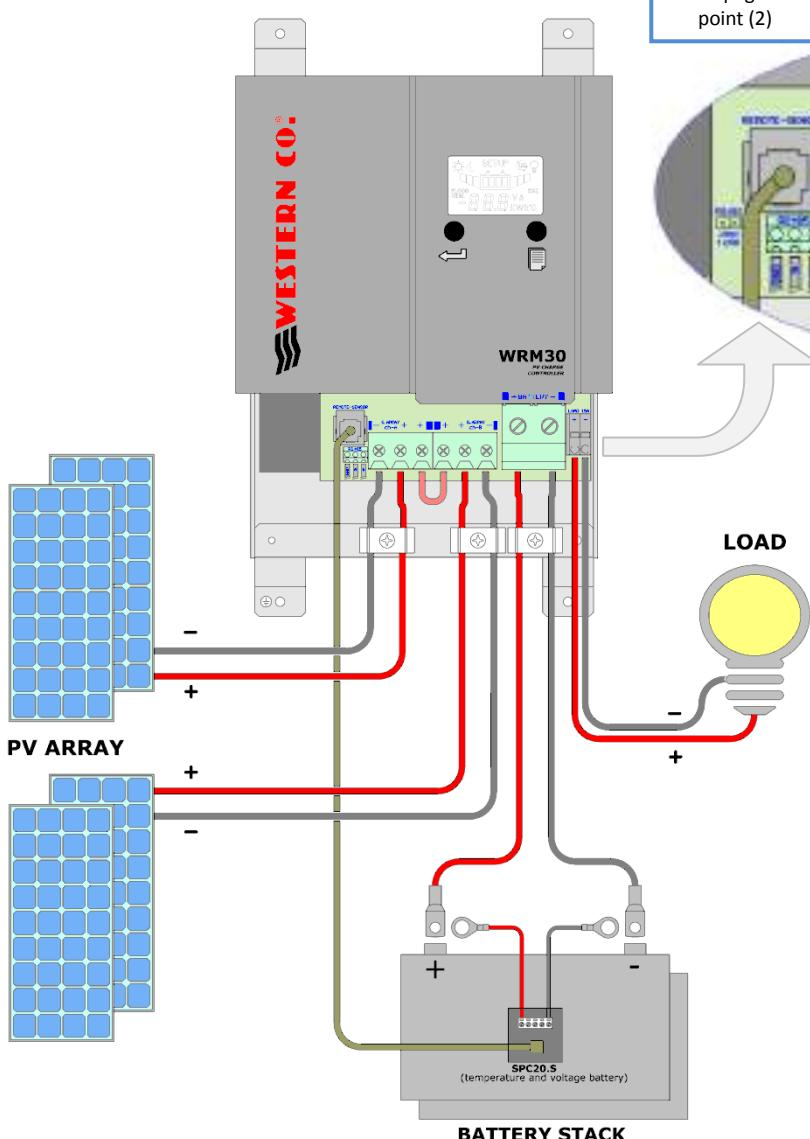

Fig. 2 Wiring diagram
- 3) Connect in the following order: load, sensor for measure of battery temperature and voltage (included), PV module, and finally the battery as in the diagram fig. 2. At battery connection, the charge controller turns on and starts to work. The cable sections must be chosen so that in each length of cable the maximum permissible voltage drop is less than 3% of the system nominal voltage (Tab. 3)